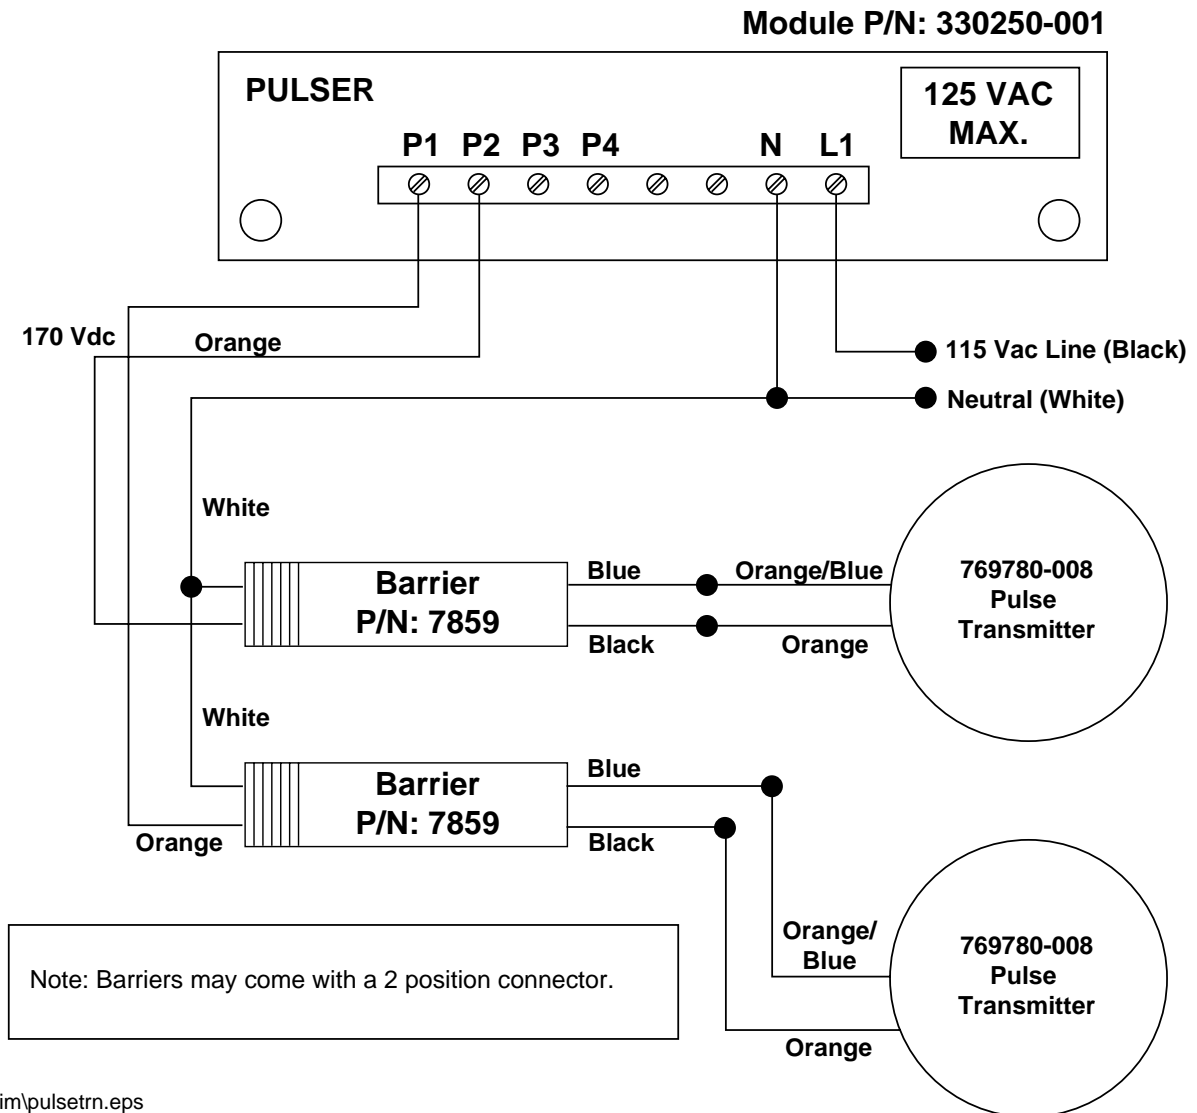
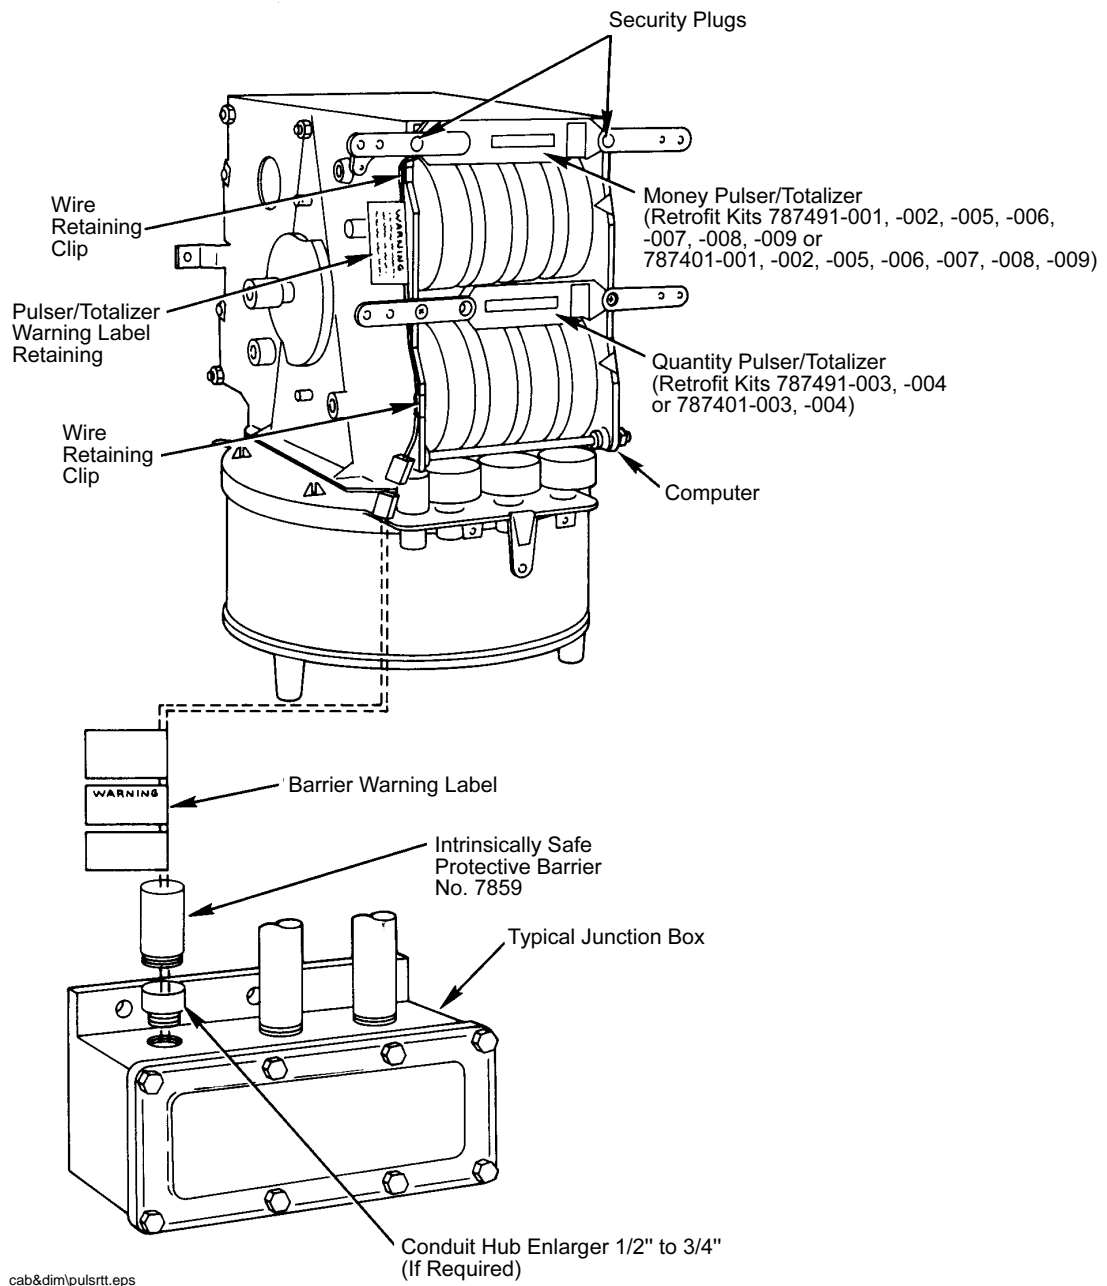
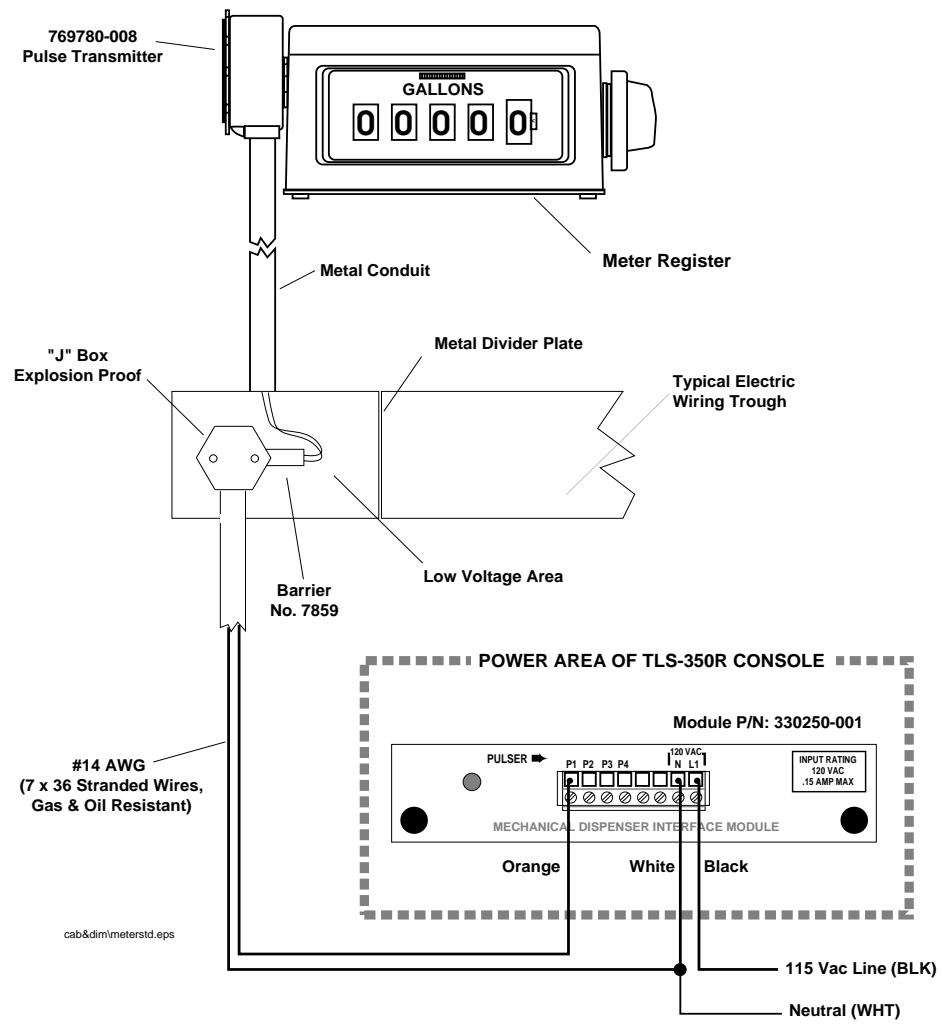

Figure 3. Wiring Diagram of Mechanical Dispenser Applications using two 1871/7697 Series Pulse Transmitters and required Barriers
Figure 4. Mechanical Dispenser Applications using 7874 Series Pulser/Totalizer
Figure 5. Meter Stand Application Using 1871/7697 Series Pulse Transmitter
3. Connect the wires (#14 AWG) from each pump or dispenser junction box to the appropriate terminals on the MDIM (see Figure 3 on page 9).
4. Refer to Figure 3 on page 9 and Figure 4 on page 10. Connect barrier (part no. 7859) white wires to each other. These are the neutral wires and should be connected to the (N) terminal on the MDIM. The (N) terminal should be connected to the neutral point in the electrical system (usually done in the circuit breaker panel).
3. Connect the wires (#14 AWG) from each pump or dispenser junction box to the appropriate terminals on the MDIM (see Figure 5 on page 12).
Refer to Figure 5 below for Meter Stand Applications (and see Figure 3 on page 9 for a close-up of a Pulse Transmitter wiring diagram):